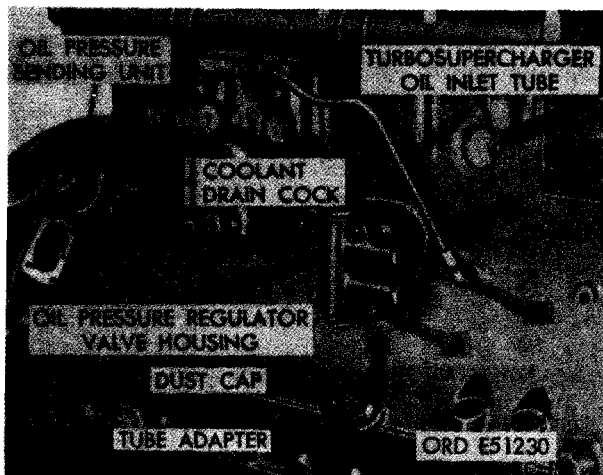

FIGURE 490. INSTALLING OIL PRESSURE REGULATOR VALVE HOUSING, TURBOSUPERCHARGER OIL INLET TUBE, AND OIL DRAIN HOSE ADAPTER (EARLY MODEL ENGINES).
**b. Early Model Engines. Figure 490.** (A) Position a new regulator valve housing gasket on cylinder and crankcase (fig. 254) and position regulator valve housing against gasket, alining screw holes. (B) Secure oil pressure regulator valve housing to cylinder and crankcase using four 3/8-inch lock washers and 3/8 x 2 cap screws. (C) Install turbosupercharger oil drain hose adapter in cylinder and crankcase. Tighten securely and install dust cap to prevent entry of dirt and foreign material. (D) Install 1/4-inch pipe x 3/8 tube, 90 degree elbow and tighten to approximate position shown. (E) Connect turbosupercharger oil inlet tube to 90 degree elbow. Tighten to approximate position shown. (F) Plug open end of oil inlet tube to prevent entry of dirt and foreign material.